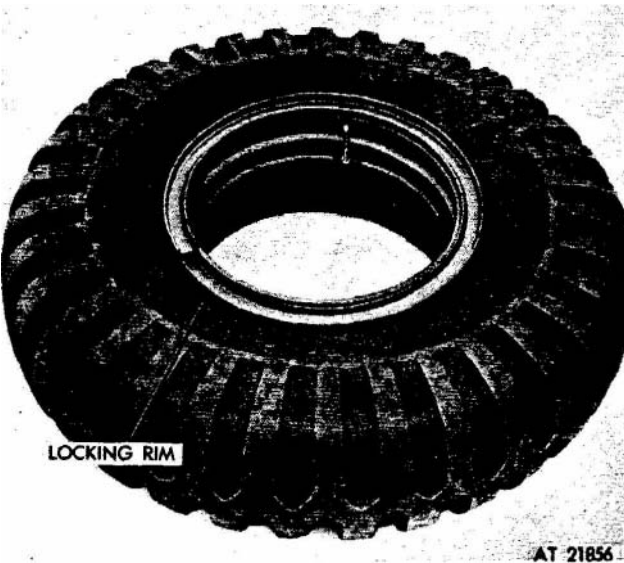

Figure 2-203. Locking rim **installation**.
(5) Position locking rim around wheel with one end under wheel rim (fig 2-203).